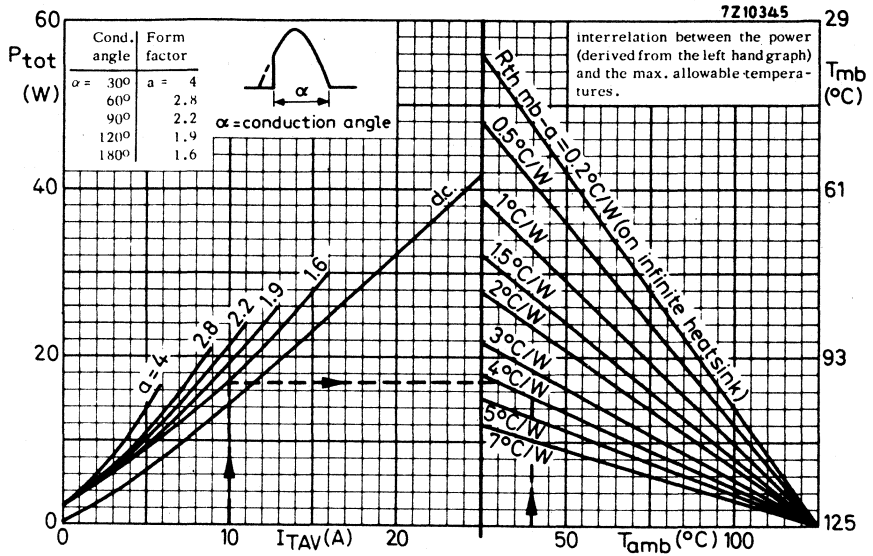

Fig. 3.
* To ensure thermal stability: $R_{th j-a} < 4,5$ °C/W (d.c. blocking) or < 9 °C/W (a.c.). For smaller heat-sinks $T_{j max}$ should be derated. For a.c. see Fig. 3.